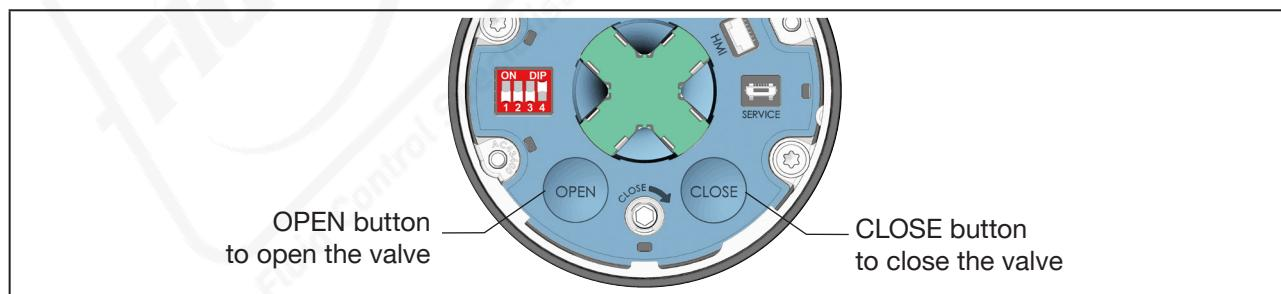

Fig. 41: Electrical manual override for devices
- Open and close the valve using the OPEN and CLOSE button (see "Fig. 41").